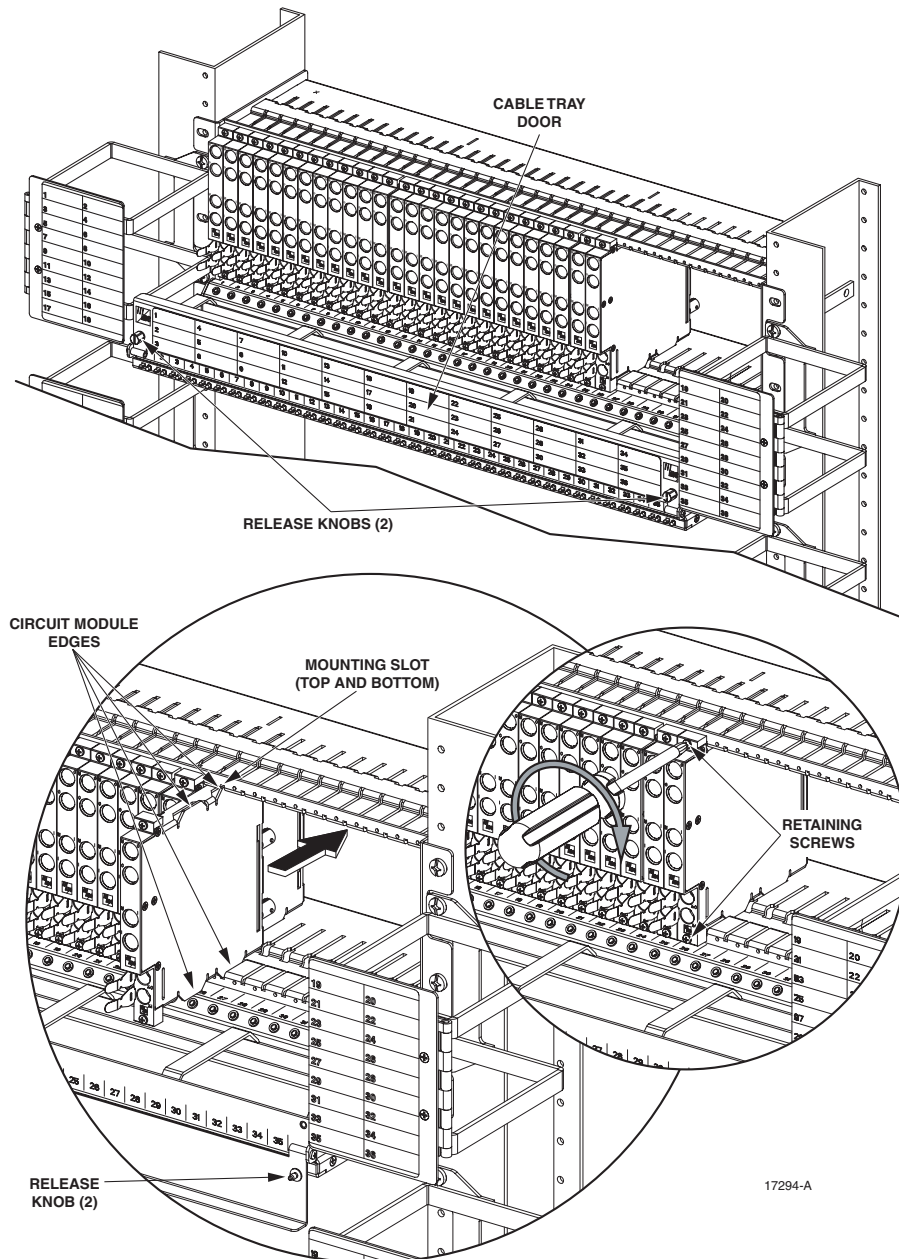

Figure 2-7. Circuit Module Installation
Using 12-24 screws (two per cable bar), install the cable management bars as shown in Figure 2-7.
Unscrew release knobs (2) and swing open cable tray door. Align each circuit module edge with respective mounting slot in chassis. Fully insert circuit module and tighten retaining screws (top and bottom). Close Cable tray door and tighten release knobs (2). See Figure 2-7.